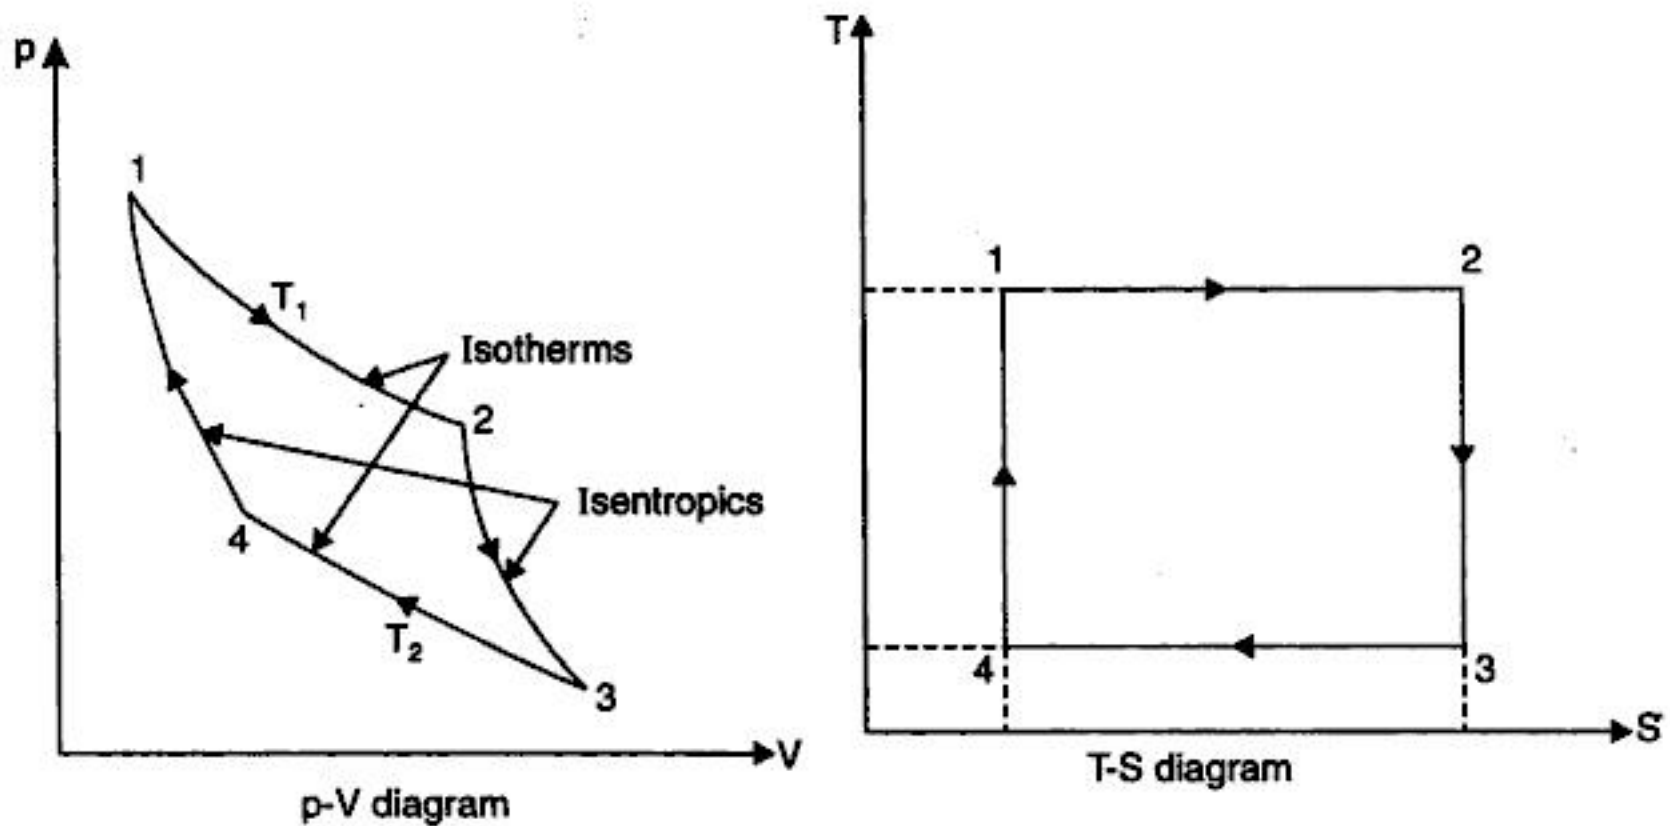

Fig. 3.3. Carnot cycle.
**Solution.** Refer Fig. 3.3. Given :  $m = 0.5 \text{ kg}$  ;  $\eta_{th} = 50\%$  ; Heat transferred during isothermal expansion = 40 kJ ;  $p_1 = 7 \text{ bar}$ ,  $V_1 = 0.12 \text{ m}^3$  ;  $c_v = 0.721 \text{ kJ/kg K}$  ;  $c_p = 1.008 \text{ kJ/kg K}$ .